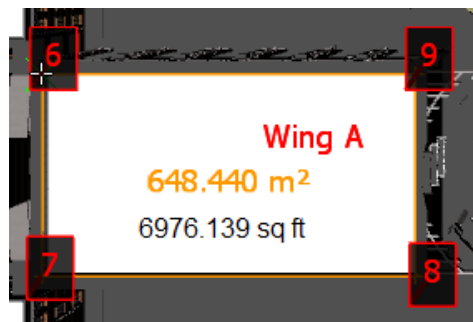

Figure 3-55 Area of roof Wing A
3. Similarly, click on the corners **7**, **8**, and **9**; the calculated area is displayed in the Scene View, as shown in Figure 3-55.